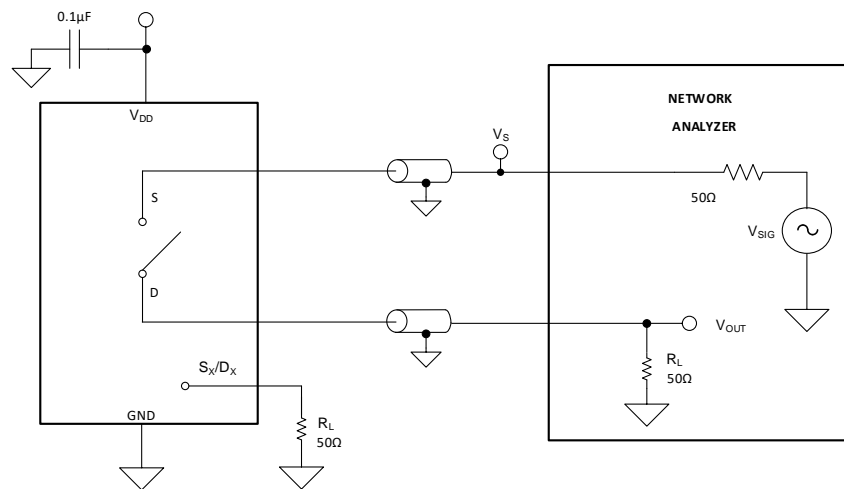

图 14. Off Isolation Measurement Setup
Off isolation is defined as the ratio of the signal at the drain pin (D) of the device when a signal is applied to the source pin (Sx) of an off-channel. 图 14 shows the setup used to measure, and the equation to compute off isolation.